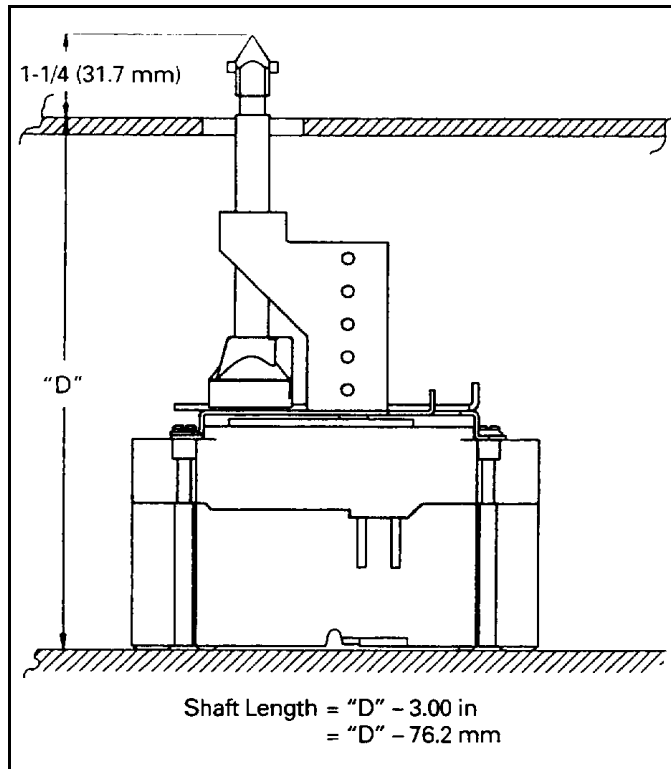

Fig. 3-1 Cutting Shaft to Length
4. Measure panel depth "D" per Figure 3-1. If "D" is less than 7" (179 mm), remove shaft support bracket from operating assembly and discard.
2. Mark shaft, measuring length beginning at the pointed end and cut to correct length. (Fig. 3-1)
3. After hole is drilled, close enclosure cover allowing the shaft to stick through the opening. Check this dimension per Figure 3-1. If dimension is not correct, loosen the set screw holding the shaft in the die cast pivot link and adjust such that the dimension is within the required limits, and retighten set screw.